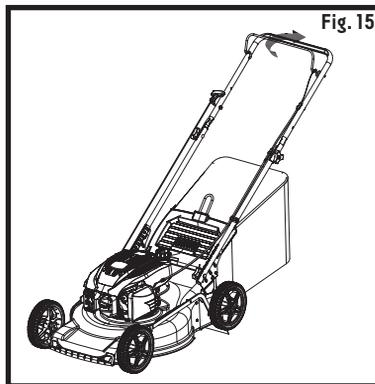

Fig. 15
2. Stand behind the mower. Pull the engine start/stop lever toward upper handle with one hand and place the other hand on the starter handle (see Fig. 15).